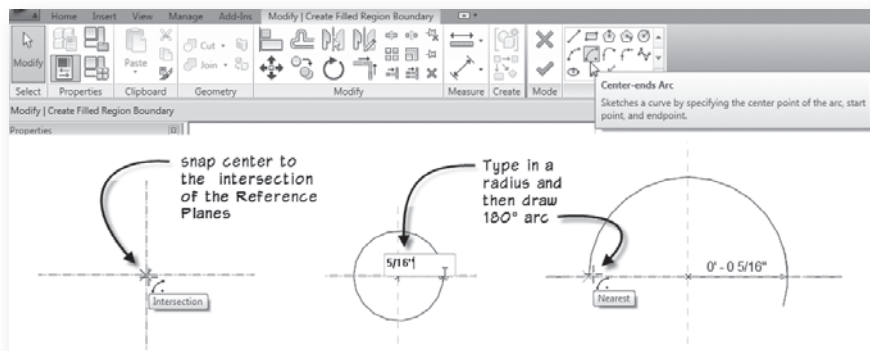

FIGURE 10.30 Begin the outline of the Filled Region with an arc
- Use the mouse to indicate a 180° arc pointing up (see Figure 10.30).